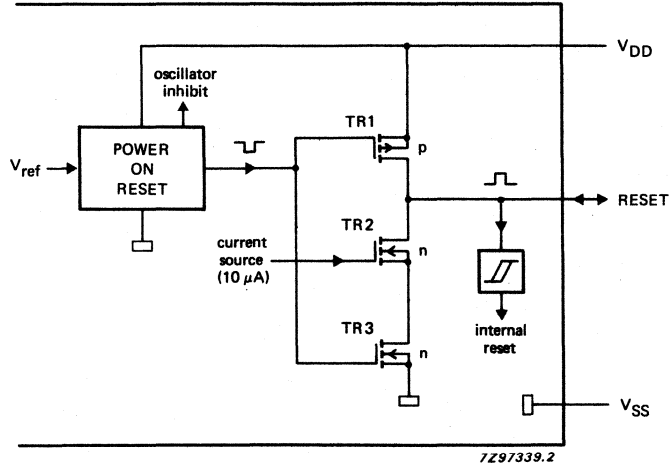

Fig. 22 Power-on-reset configuration.
1. If V_{DD} can be switched with a fast rise time i.e. V_{DD} reaches its minimum operating value (corresponding to the selected oscillator frequency) before the RESET signal has finished (t_D), then no extra components are required (see Figs 22 and 23). Note that the first instruction is executed after the oscillator start-up time plus 1866 clock periods have elapsed.